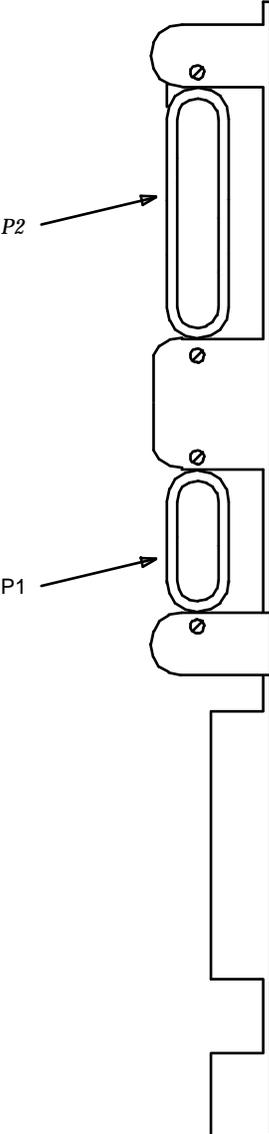

FIGURE 2-22. P1 and P2 Cable Locations
6. Connect the "P2" and "P1" (large and small) connectors to the "A" carrier. To get enough slack in the cables, cut the tie wrap holding the intercabinet cables to the upright in the area being installed. Snap the connector lock into place to ensure the connection is properly made (see Figure 2-22).
7. Connect the "P1" (small) connector to the "B" carrier. To get enough slack in the cables, cut the tie wrap holding the intercabinet cables to the upright in the area being installed. Snap the connector lock in place to ensure the connection is properly made (see Figure 2-22).